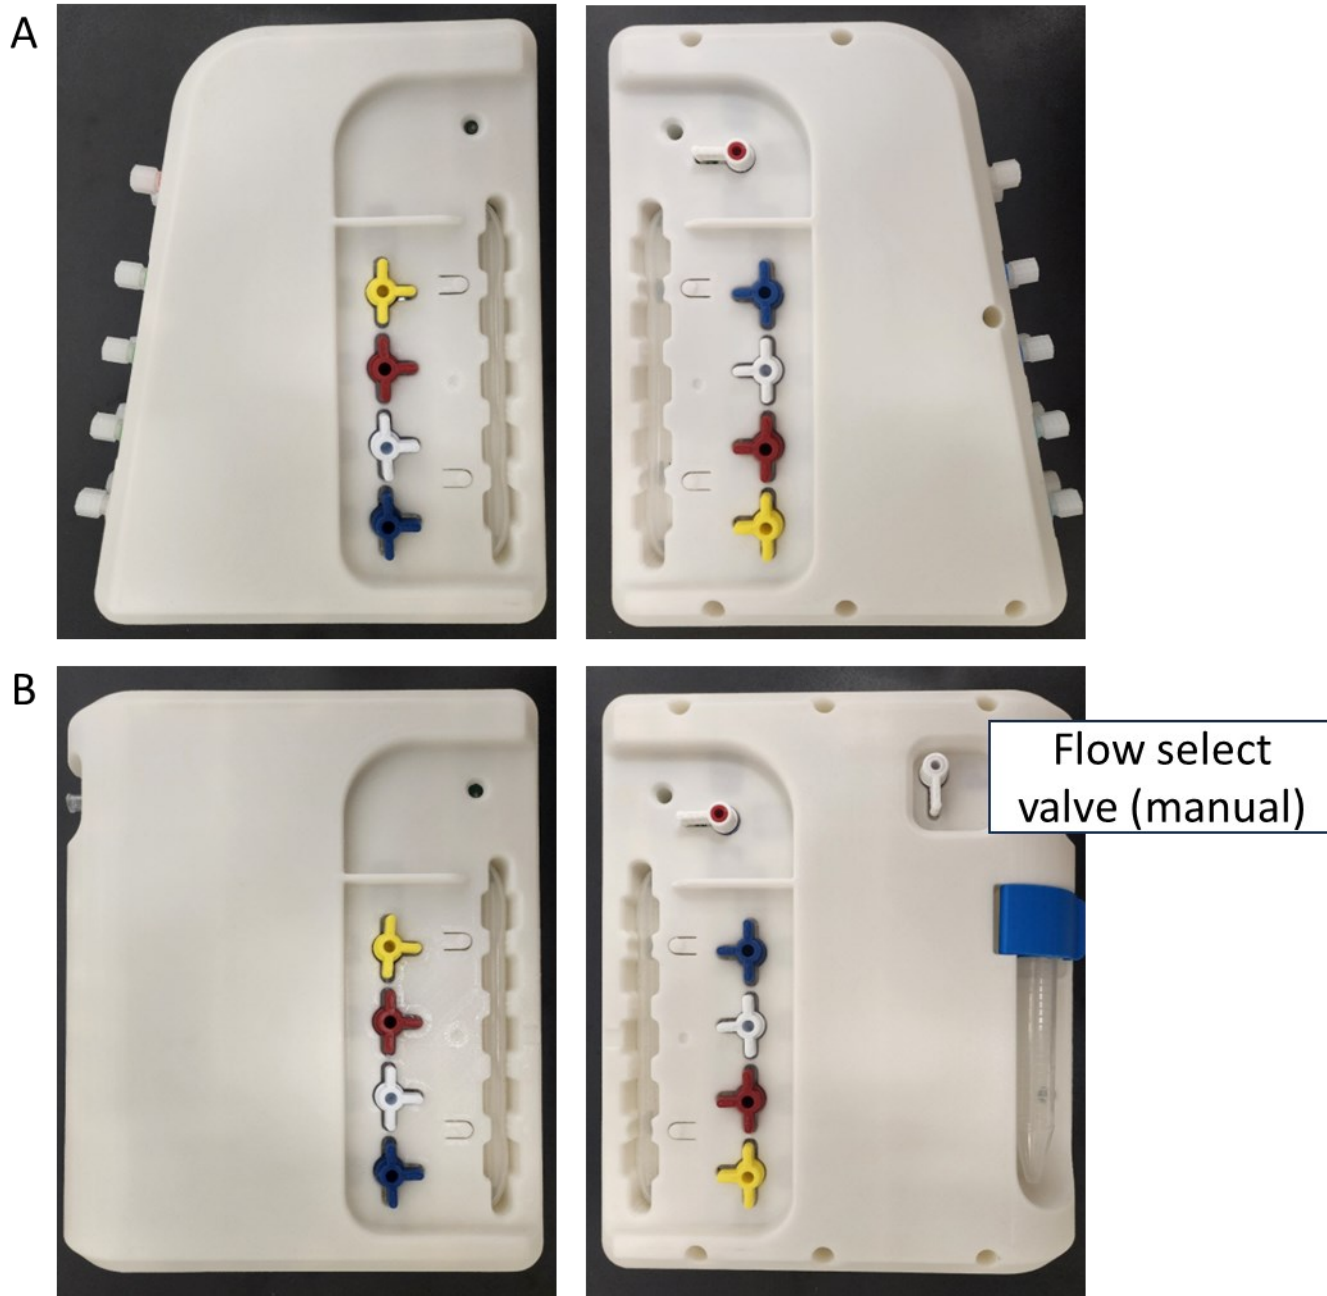

Figure 8. Correct Valve orientation on a cartridge.
- 2 Remove the cartridge from its packaging and check the valve orientation. The valves have to be oriented as shown in Figure 8 for correct operation.